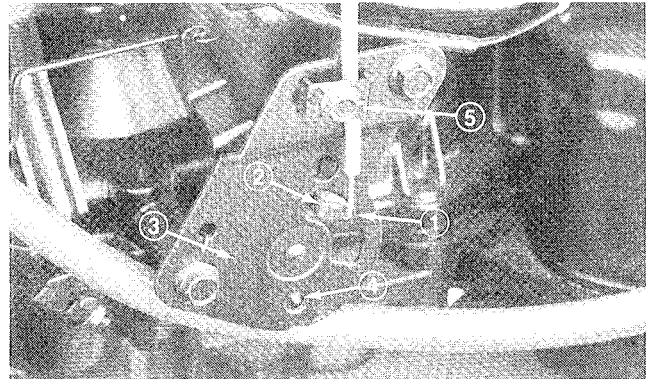

**Figure 4**
1. Align upper handle mounting holes with desired mounting holes in frame (upper or lower set of holes) and secure each side with (2) 3/8 -16 x 1" lg. flange capscrews and flange nuts (Fig. 4).